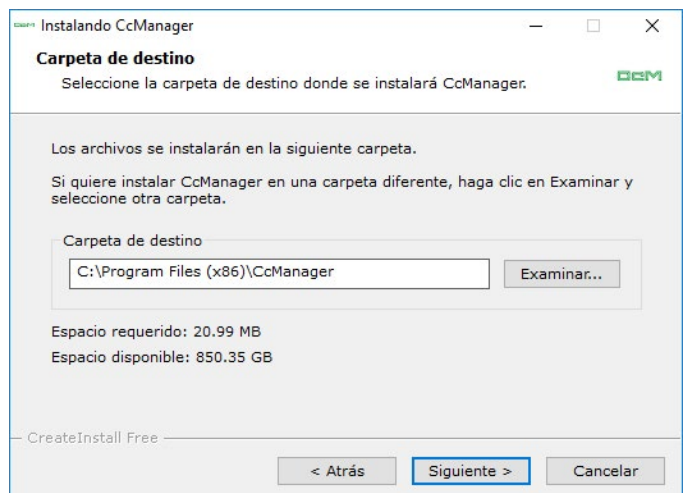

Figure 2. Windows – Installation process 2 of 4
- Select the address where you wish the application to be installed (if you want to change the one that comes as default, you can click on the “Browse” button or manually write it in the text box) and then, once it is done, click on “Next” (Figure 2).
- To run the programme, double click on the shortcut created on your desktop or access the location where you installed the file (selected in Figure 2, by default “C:\Program Files (x86)\CcManager”) and run the ‘CcManager.exe file.